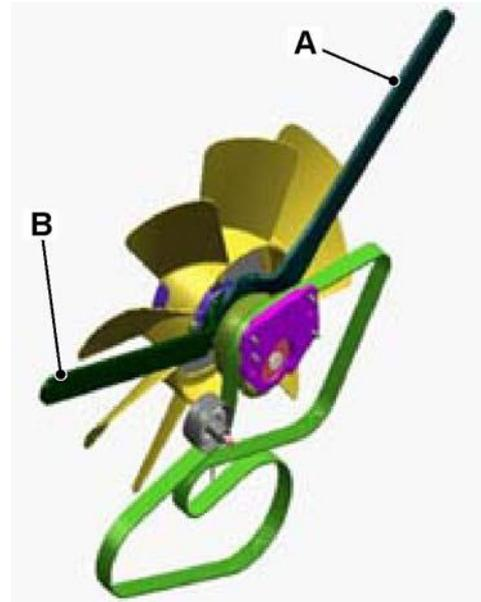

Fig 9.
- 4 → Fig 9. (K-14). Working at the left hand side of the engine compartment, fit special spanners **A** and **B** (see **Service Tools**) onto the fan coupling and drive hub adaptor plate as shown.